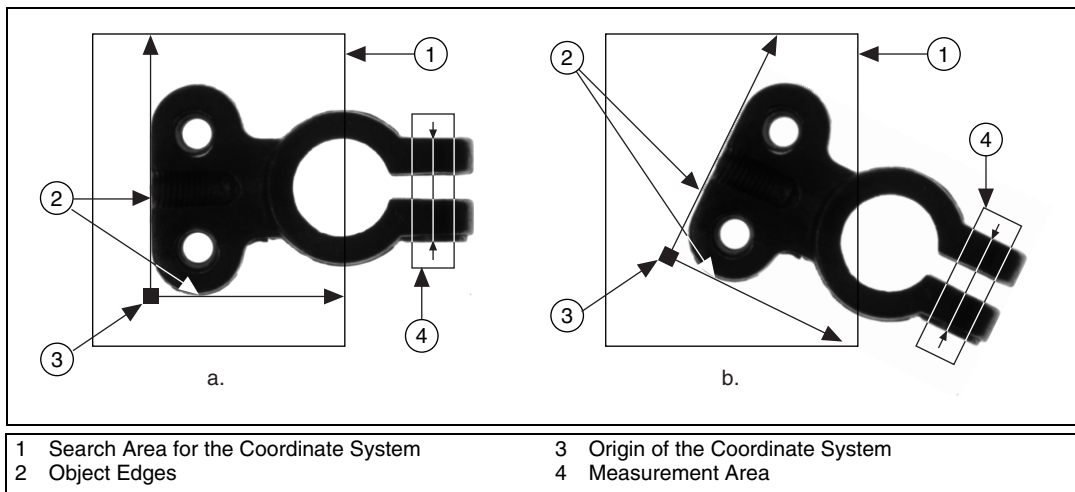

Figure 5-2. Coordinate Systems of a Reference Image and Inspection Image
- a. If you use `CWMachineVision.FindCoordTransformUsingRect`, specify one rectangular ROI that includes part of two straight, nonparallel boundaries of the object, as shown in Figure 5-2. This rectangular region must be large enough to include these boundaries in all the images you want to inspect.